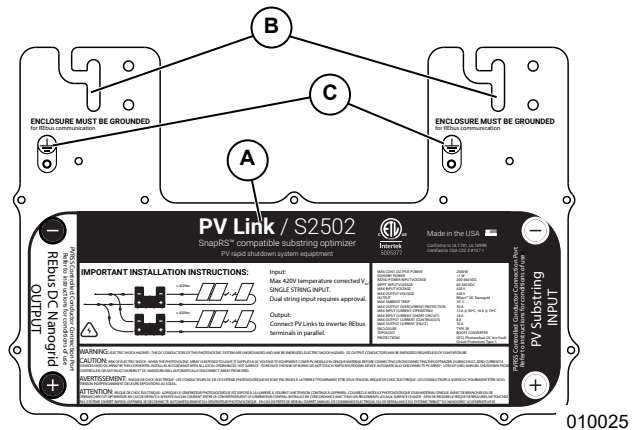

Figure 5-1. Grounding Terminal Location
See Figure 5-1. Install the PV Link with label (A) facing up. Attachment flange slots (B) accept fasteners up to M8 or 5/16" in diameter.
- See Figure 5-1. Fasten to grounding terminal (C) the equipment grounding conductor using a lug (such as, 6-14 AWG Copper Set Screw Lug, McMaster P/N: 6923K31) or equivalent.
- See Figure 5-1. Use two rail-compatible fasteners (D) to secure the PV Link to the grounded rail.
- Use a WEED clip (Wiley P/N: 30020098) or equivalent grounding washer (E) between the rail and attachment flange to penetrate the rail's anodized coating.